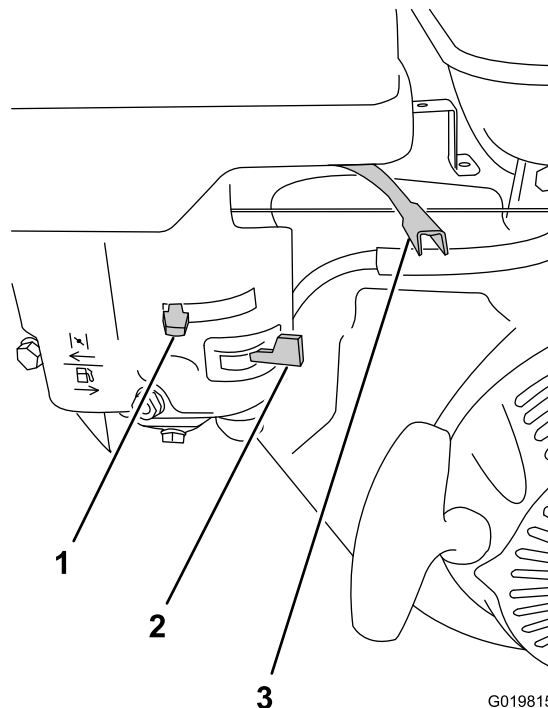

Figure 30
2. On the engine, move the throttle lever away from the Min position, 1/3 of the way toward the Max position (Figure 30); refer to Throttle Lever (page 11).
3. Move the lever of the fuel valve to the On position—all the way to the right (Figure 30); refer to Fuel Valve (page 11).
- To start a cold engine, move the choke lever to the Closed position—all the way to the left (Figure 30); refer to Choke Lever (page 11).
5. Rotate the engine switch to the On position (Figure 30); refer to Engine On/Off Switch (page 11).
1. Ensure that the choke lever is in the Off position (Figure 30); refer to Choke Lever (page 11).
2. Move the throttle lever to the Min position (Figure 30); refer to Throttle Lever (page 11).